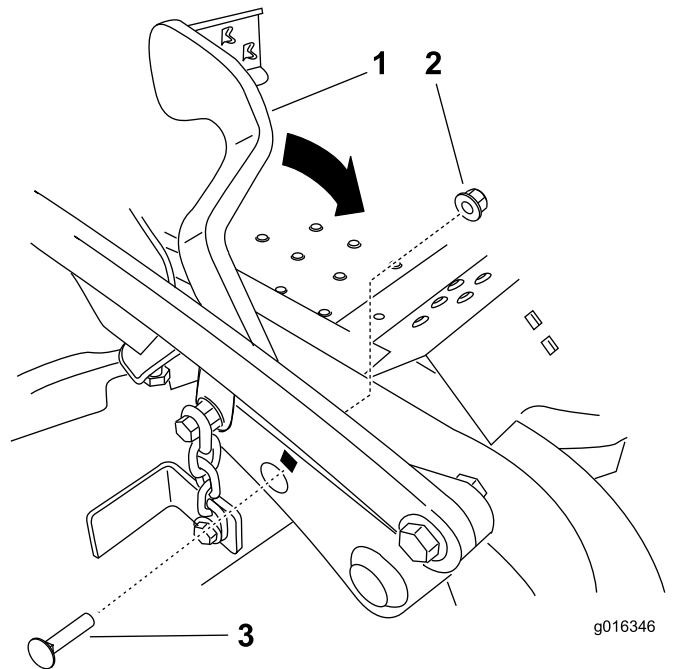

Figure 21
2. Rotate the lift-assist pedal to the correct position and install the carriage bolt (3/8 x 1-1/2 inches) and locknut (3/8 inch) (Figure 21). Tighten both bolts.